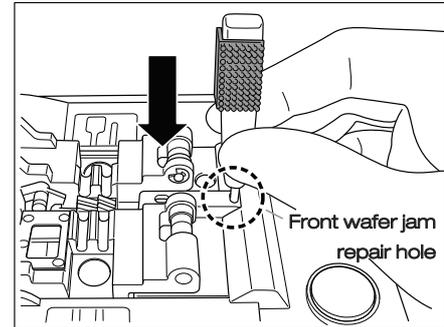

Figure 25
2. Insert the wafer jam repair tool through the front wafer jam repair hole of the TSCD®-II and push the tool straightly down so that a wafer inside can be dropped into the wafer disposal box (See Figure 25).